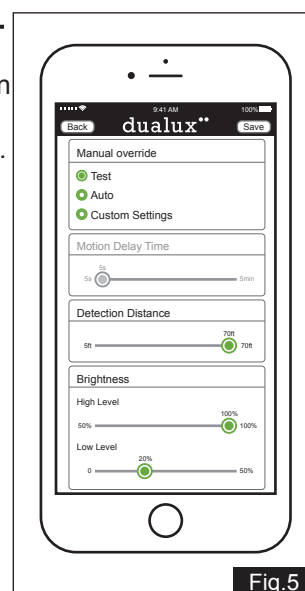

Fig.5
1. Gently grasp the light heads and tilt them up or down, left or right to adjust the light coverage area. Keep the light heads at least 1" (25mm) away from the sensor. (See Fig. 5)